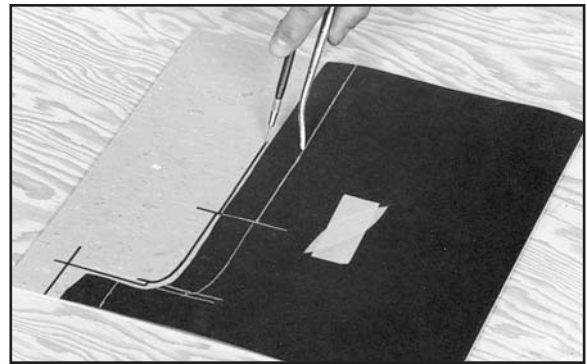

Fig. 10.
4. Remove the felt and reposition it accurately on a piece of tile. Transcribe the marks (Figure 10). Heat the back of the tile before cutting.